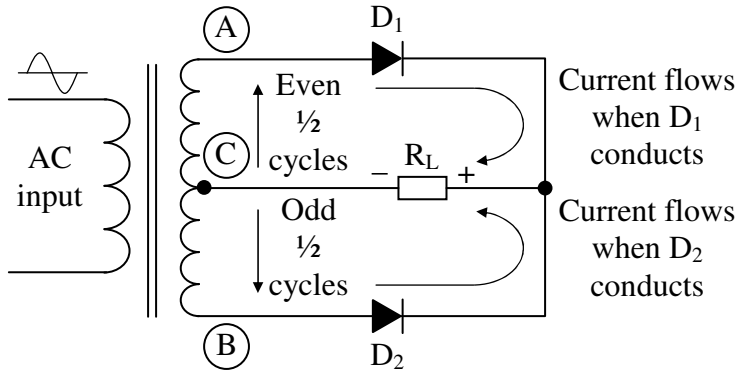

Fig. 3.14 Full-wave rectified circuit
In a *full-wave rectifier* circuit two diodes are used together with a transformer whose secondary winding is split equally into two and has a common centre tapped connection (C) (Fig. 3.14). Now each diode conducts in turn when its anode terminal is positive with respect to the centre point C.